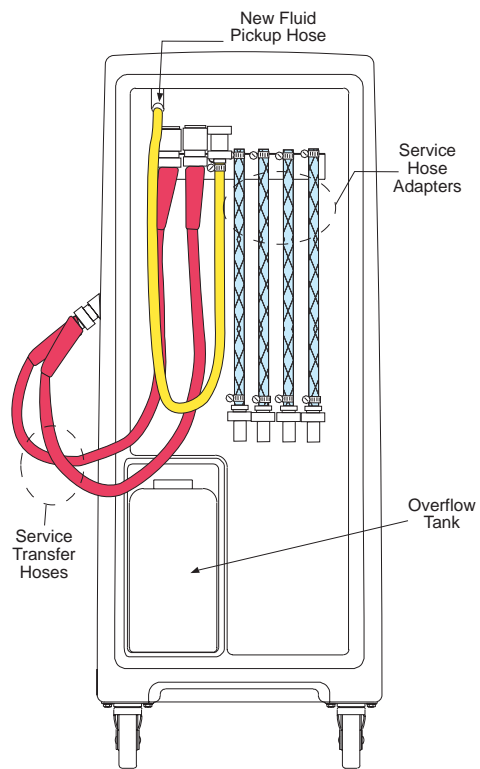

**Figure 40.** Connection Complete
10. Connect a service hose adapter to each service transfer hose (see Figure 40 and Figure 41). The T-TECH machine will sense the fluid direction and adjust so that the used ATF from the vehicle is always coming into the bottom of the cylinder and the new ATF is moved out of the top of the cylinder and into the vehicle transmission. When the transfer hoses have been connected, the system should look like the illustration in Figure 40.